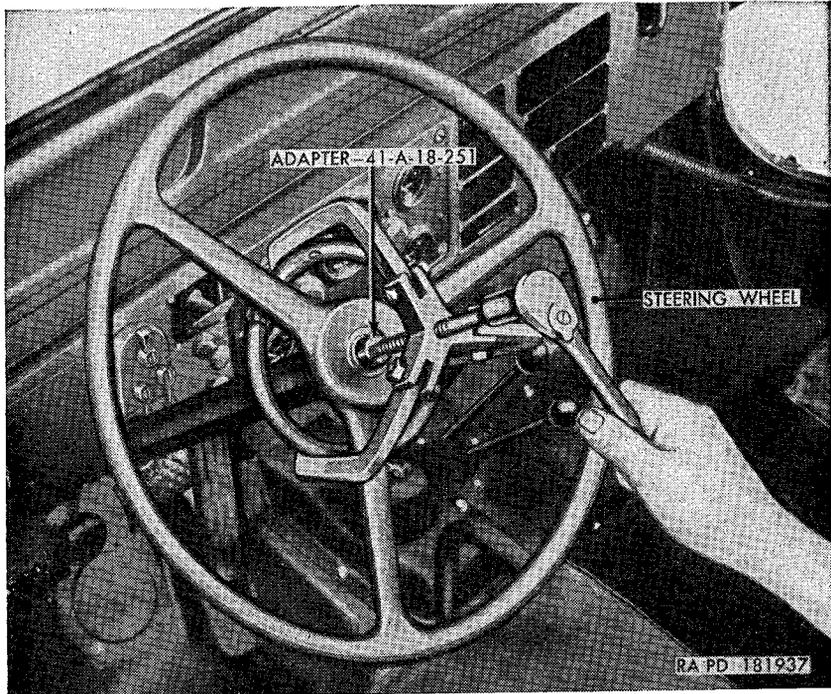

Figure 154. Removing steering wheel from steering gear shift, using puller and adapter—41-A-18-251.
- (1) Pry the horn button cap from the steering wheel nut.
- (2) Pull the horn button, with horn switch push rod, out of the steering gear shaft. Unscrew and remove the steering wheel nut from the shaft.
- (3) Using puller and adapter 41-A-18-251 (fig. 154), pull the steering wheel from the steering gear shaft.
- (1) Jack up the vehicle until the front tires are clear of the ground. Turn the steering wheel (fig. 154) to the right or left to position the wheels in a straightahead position. Mark the steering wheel at the top and place a mark on the windshield in line with the mark on the wheel.
- (2) Disconnect the drag link assembly from the Pitman arm (par. 227a(2)).